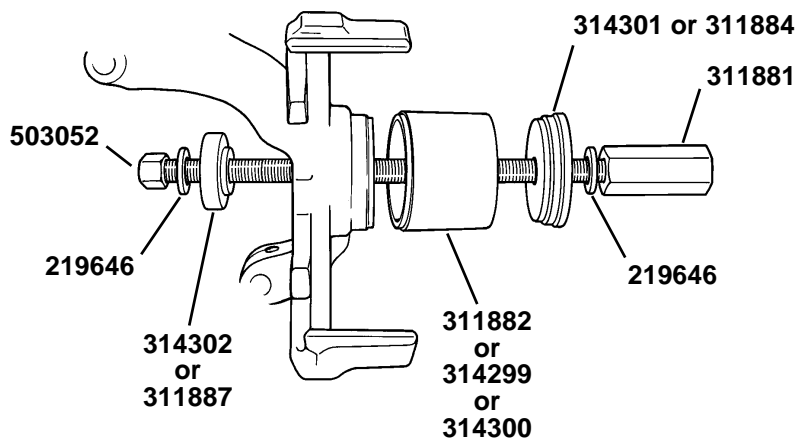

Figure 1
2. Assemble tool components as shown in Figure 1.